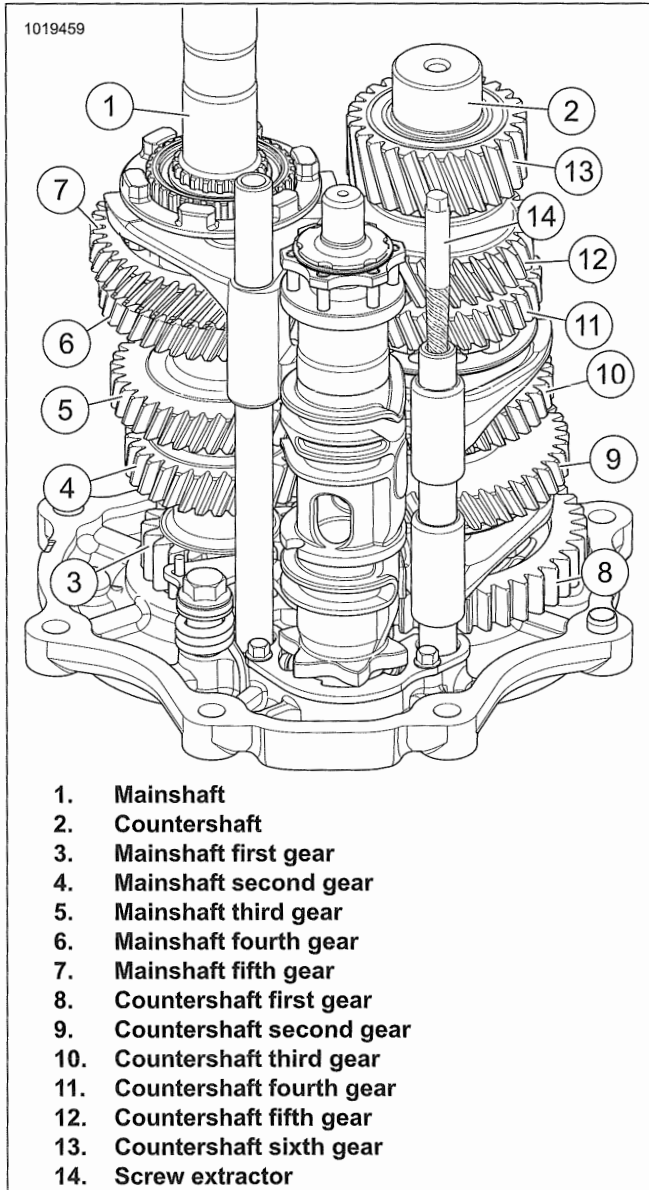

Figure 5-44. Gear Set
- See Figure 5-44. Remove shift fork shafts: